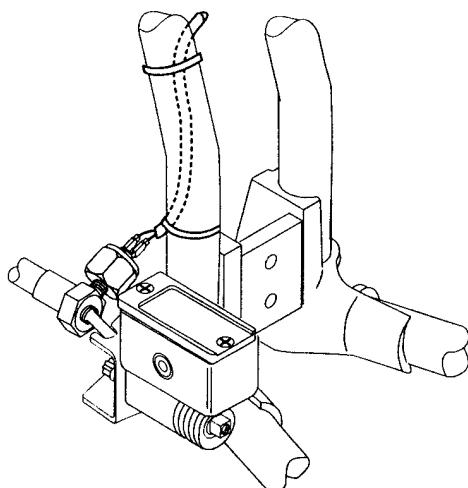

Figure 8-67. Rear Stoplight Switch
See Figure 8-67. The rear stop light switch monitors brake fluid pressure in the rear brake line. When pressure in the line reaches a preset level, the rear stop light switch is tripped and illuminates the tail light/stop light. The rear stop light switch is located on the rear brake line T-fitting.
1. See Figure 8-67. Remove two terminals from rear stop light switch.
2. See Figure 8-67. Install rear stop light switch to T-fitting.